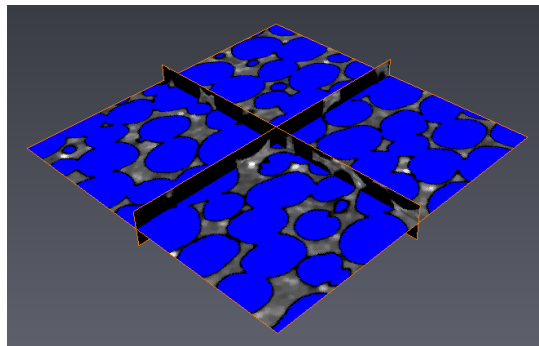

Figure 4.4: *Interactive Thresholding* 2D preview
- Check and uncheck the *3D* option in the *Preview Type* port to get a 2D only or 3D preview (see Figure 4.4).